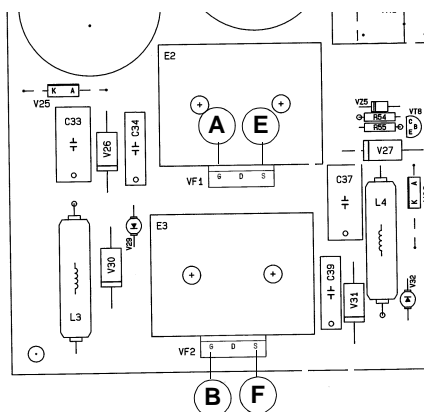
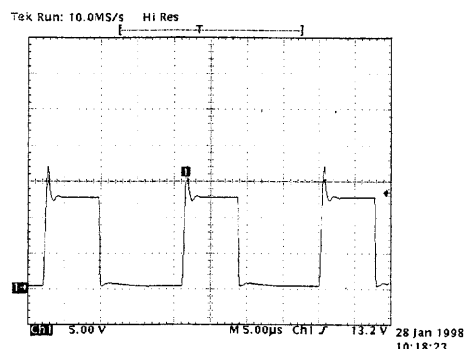

FIG. 7 REF. 1
FIG. 8 REF. 1
- the presence between points: E (GND) - A (probe) and F (GND) - B (probe) (fig. 7) of the waveform shown in fig. 8: if the waveform differs from the one in the figure or it is not present, the electronic circuit is broken.
**Solution:** board replacement ref. 1.
3. Connect the generator to the resistive load: the load must be regulated so that the voltage on the load, with maximum current, is between 20V and 24V. Apply oscilloscope probe as in fig. 8